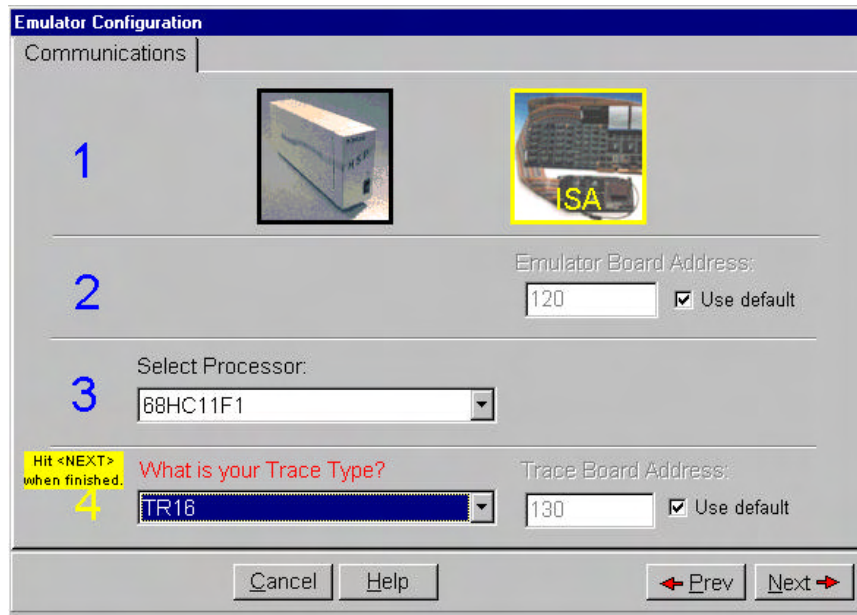

Figure 36. Emulator Configuration Communications Dialog Box
2. Select **SeehauHC11**. Then click **Config** to open the **Emulator Configuration Communications** dialog box (Figure 36).
As an example of setting up your configuration, the ISA communications interface is shown in Figure 36. The HSP communications interface is very similar, and the steps you do when using the HSP communications interface are almost identical.